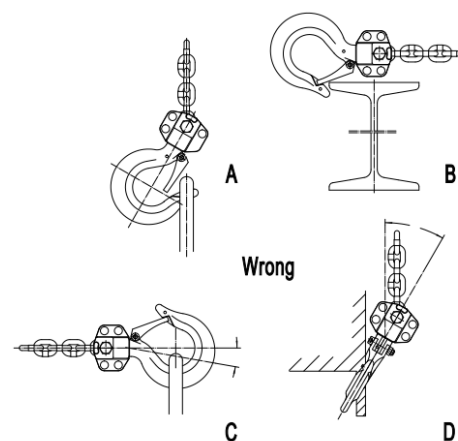

Figure 8
- Never load the hook in front of the safety latch (A, Figure 8).
- Never load the hook tip (B, Figure 8).
- Never load the hook of the centerline (C, Figure 8).
- Never load the hook sideways (D, Figure 8).